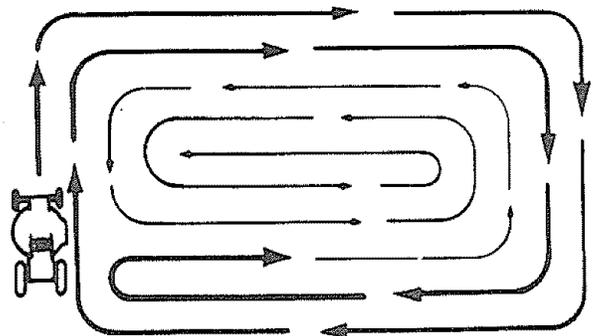

FIGURE 18
- When mowing large areas (Fig. 18), start by turning to the right so that the clippings will discharge away from shrubs, fences, driveways, etc. After two or three rounds, mow in the opposite direction making left hand turns until finished.